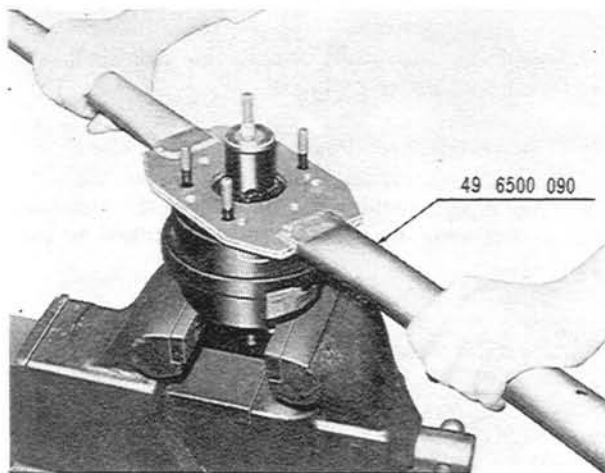

Fig. 11-8 Removing of rear shell
5. Attach the wrench (49 6500 090) to the studs of the rear shell as shown in Fig. 11-8. Rotate the rear shell clockwise to unlocked position. Loosen the rear shell carefully as it is spring-loaded.